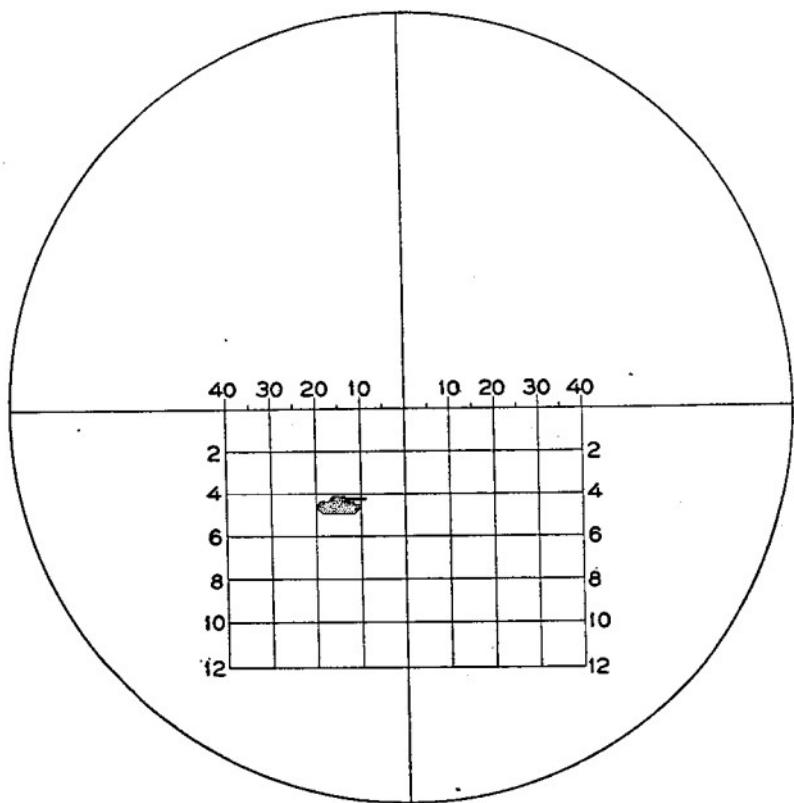

Figure 19. Gunner's sight picture, two-man, two-sight system (lead 15 mils).
b. **Gunner.** (1) *Enumeration of duties.* (a) To center the cross level bubble on the panoramic telescope mount.
(2) *Detailed description of certain duties.* (a) *To lay on the target with announced lead and track the target.* The gunner sets his azimuth scales at zero and tracks the target with the traversing handwheel, using the center of the visible mass as an aiming point and keeping the vertical hair of the telescope ahead of the target by measuring the announced lead on the reticle scale (fig. 19). When time does not permit the chief of section to announce the lead, it is determined by the gunner.